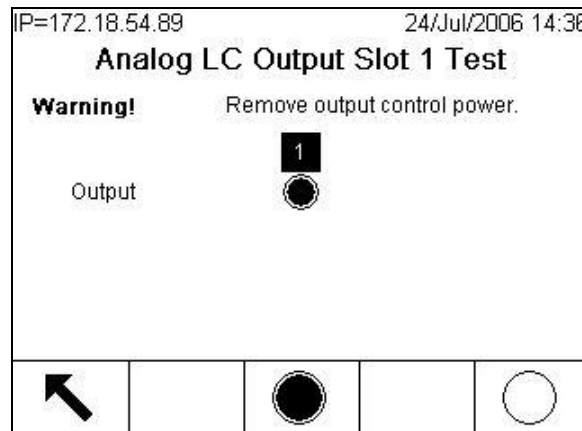

Figure 3-166: Analog LC Output Slot 2 Test Screen
4. With an output selected, press the DISCRETE OFF softkey  to turn it off, or press DISCRETE ON  to turn it on. Figure 3-166 shows the test screen for an Analog Load Cell, with its output turned on.